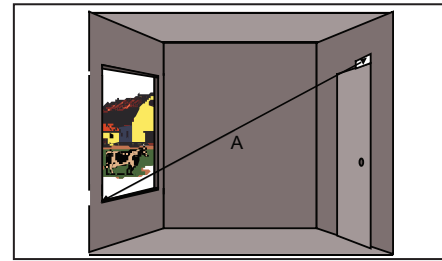

Figure 3.1: Opposite wall mounting using door contact
- Make sure the detector is no farther than 10 ft (3 m) from any corner of the glass (line A in Figure 3.1).